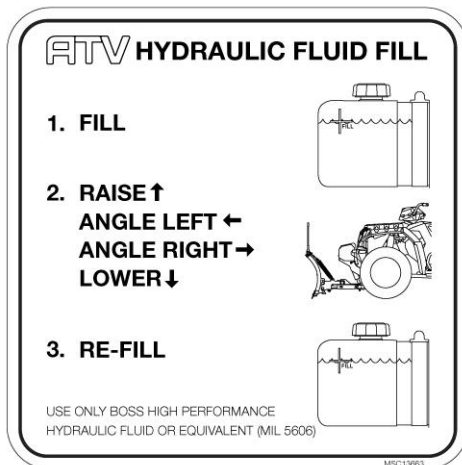

Figure 14. Hydraulic Fluid Fill Procedure MSC13663
4. Fill the Power Unit reservoir to the fill line with Boss High Performance Hydraulic Fluid or equivalent (MIL 5606) (Approx. ½ quart) as shown in Figure 14.
8. Re-install the Coupler Cover (42) and Plastic Rivets (43A).